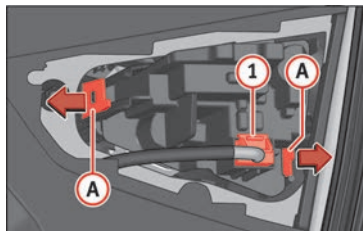

Fig. 118 Remove the bulb holder.
4. Remove the bulb connector » **Fig. 118** ①.